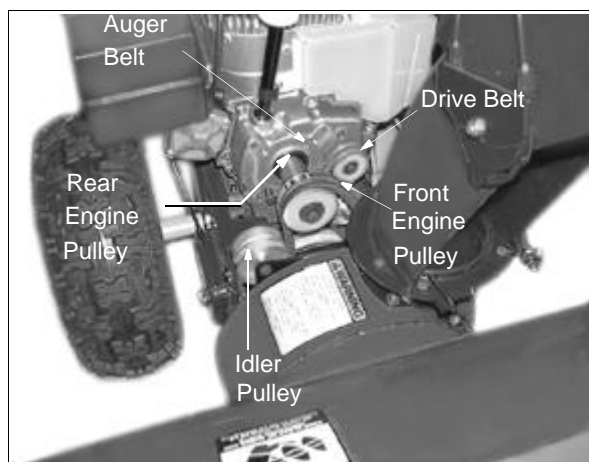

Figure 19
5. Remove the two belts from the two engine pulleys. For location of the pulleys, see Figure 19.
5. Pull the idler pulley away from the drive belt and remove the belt from the engine pulley. You will find the idler pulley in front of the engine and under the belt cover that you removed earlier. See Figure 19.